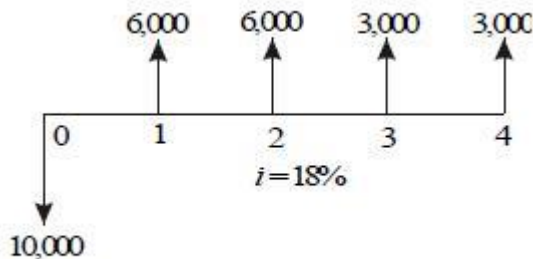

**Fig. 4.8** Cash flow diagram for proposal A.
**Present worth of A at  $i = 18\%$ .** The cash flow diagram of proposal A is shown in Fig.4.8.